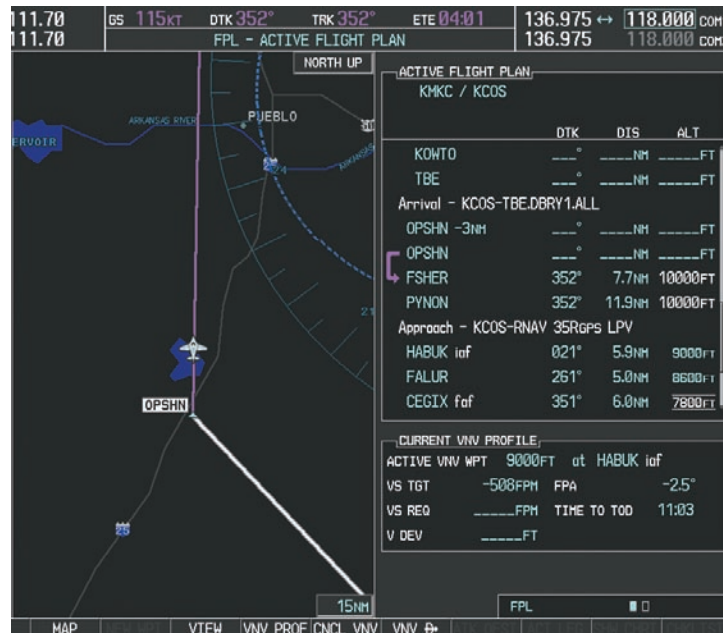

Figure 5-134 Tracking the OPSHN to FSHER Leg
- 19) After passing OPSHN, the next leg of the arrival turns magenta as shown in Figure 5-134. The magenta arrow in the flight plan list now indicates the OPSHN to FSHER leg of the arrival procedure is now active.